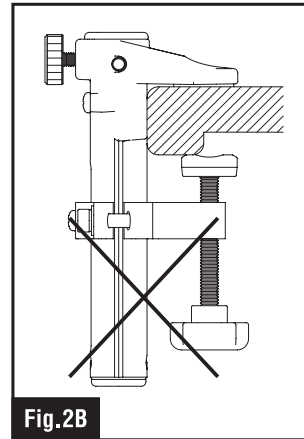
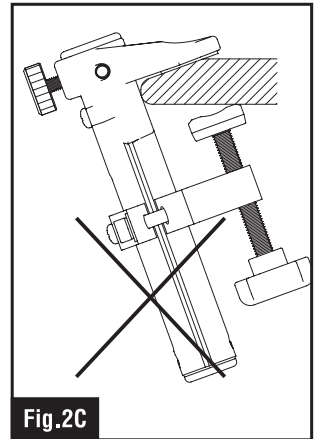

Fig.2B
Fig.2C
- This product cannot be attached to desks with bottom edge lips (Fig.2B) or top beveled edges (Fig.2C).